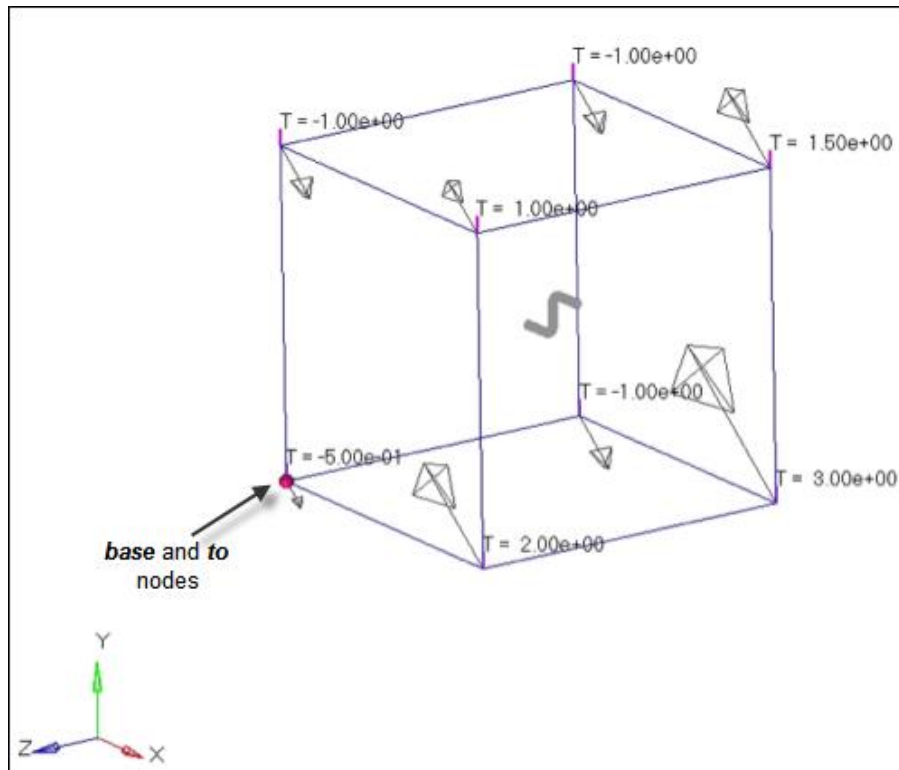

Figure 3: The base and the node for translating the shape
7. For **from: base**, select the node shown in Figure 3.
8. For **to: nodes**, select the node shown in Figure 3.